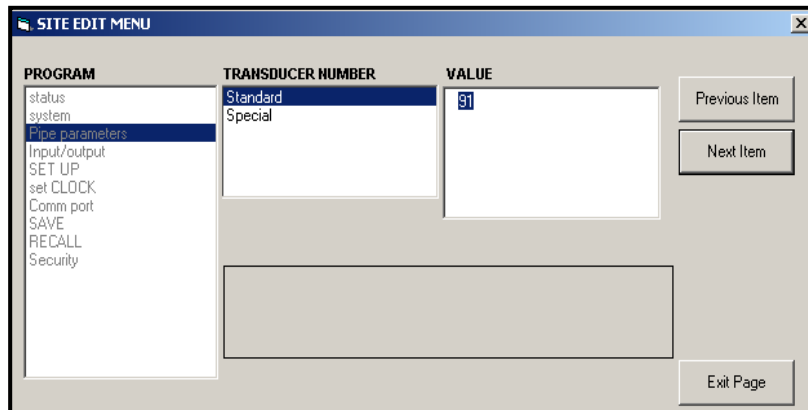

Figure 37: The Pipe Parameters Option in the Site Edit Menu
- Highlight and double-click on the desired option in the left pane. Figure 37 below shows the first entry (Transducer Number) in the **Pipe parameters** option. The title above the center pane lists the current entry, while the center pane displays the available selections for that entry.